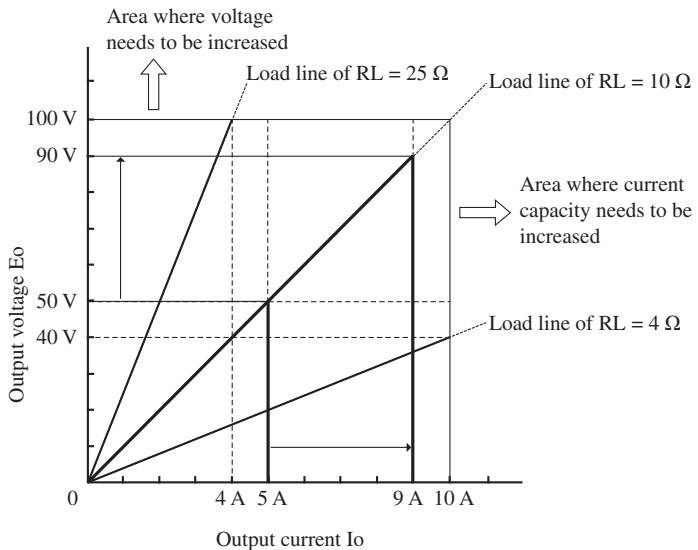

Fig.2-7 Constant voltage operation and constant current operation
output current increases as the output voltage increases. When the output voltage reaches 50 V (that is, the output current has reached 5 A), the output voltage no longer increases even if you attempt to raise it. This is because the output current is limited to 5 A specified initially, causing the power supply to switch to the constant current (CC) operation mode. In this way, the power supply automatically switches from the constant voltage to constant current operation to prevent an overcurrent from flowing. (The point at which the operation mode switches is called the "crossover point".) If the current limit is raised in this condition, the power supply returns to the previous constant voltage operation, allowing you to increase the output voltage further. If the current limit is increased from 5 A to 9 A in Fig.2-7, a voltage of up to 90 V can be output.